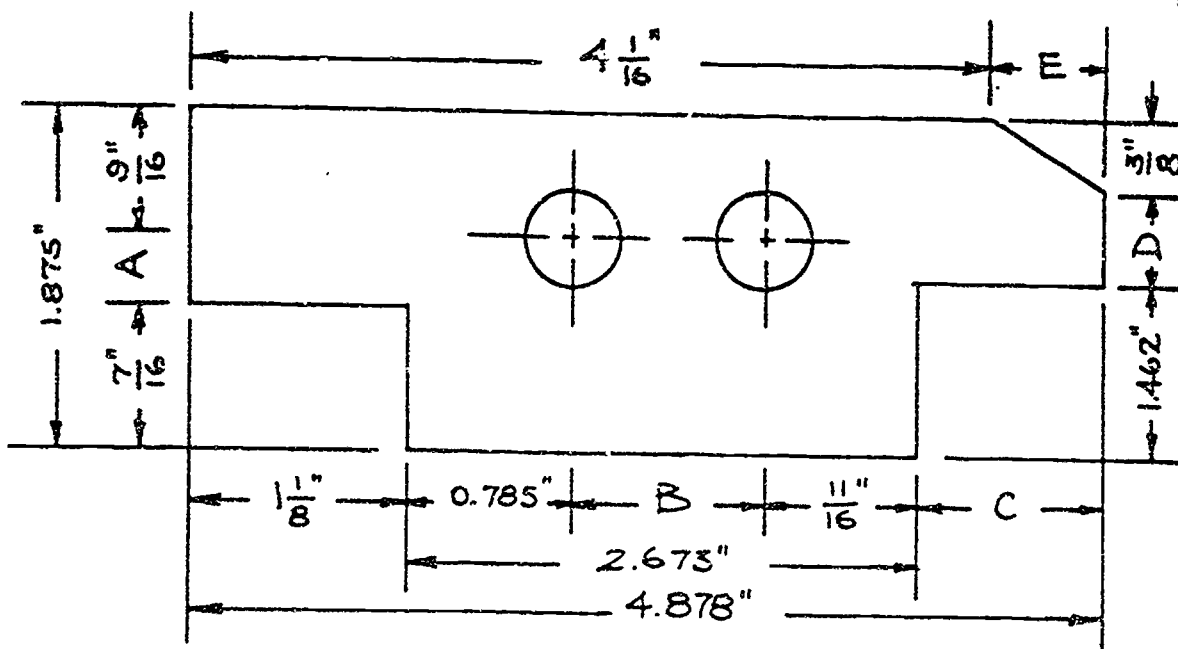

Figure 1: Find the missing dimensions.
1. On your job, you are asked to lay out the pattern shown in Figure 1 below. Find the missing dimensions.